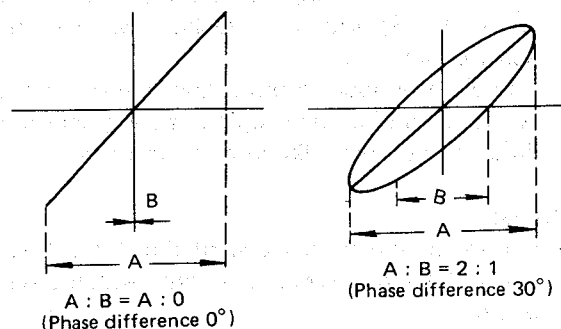

Figure 26
2. Turn the setscrews ②-B and the screw ③ (3P+8S) slightly to achieve maximum AUDIO output level.
4. Adjust the azimuth adjustment screws ③ (3P+8S) so that the outputs of CH-1 and CH-2 becomes maximum and the phase difference within 30°. (Refer to figure 26.)